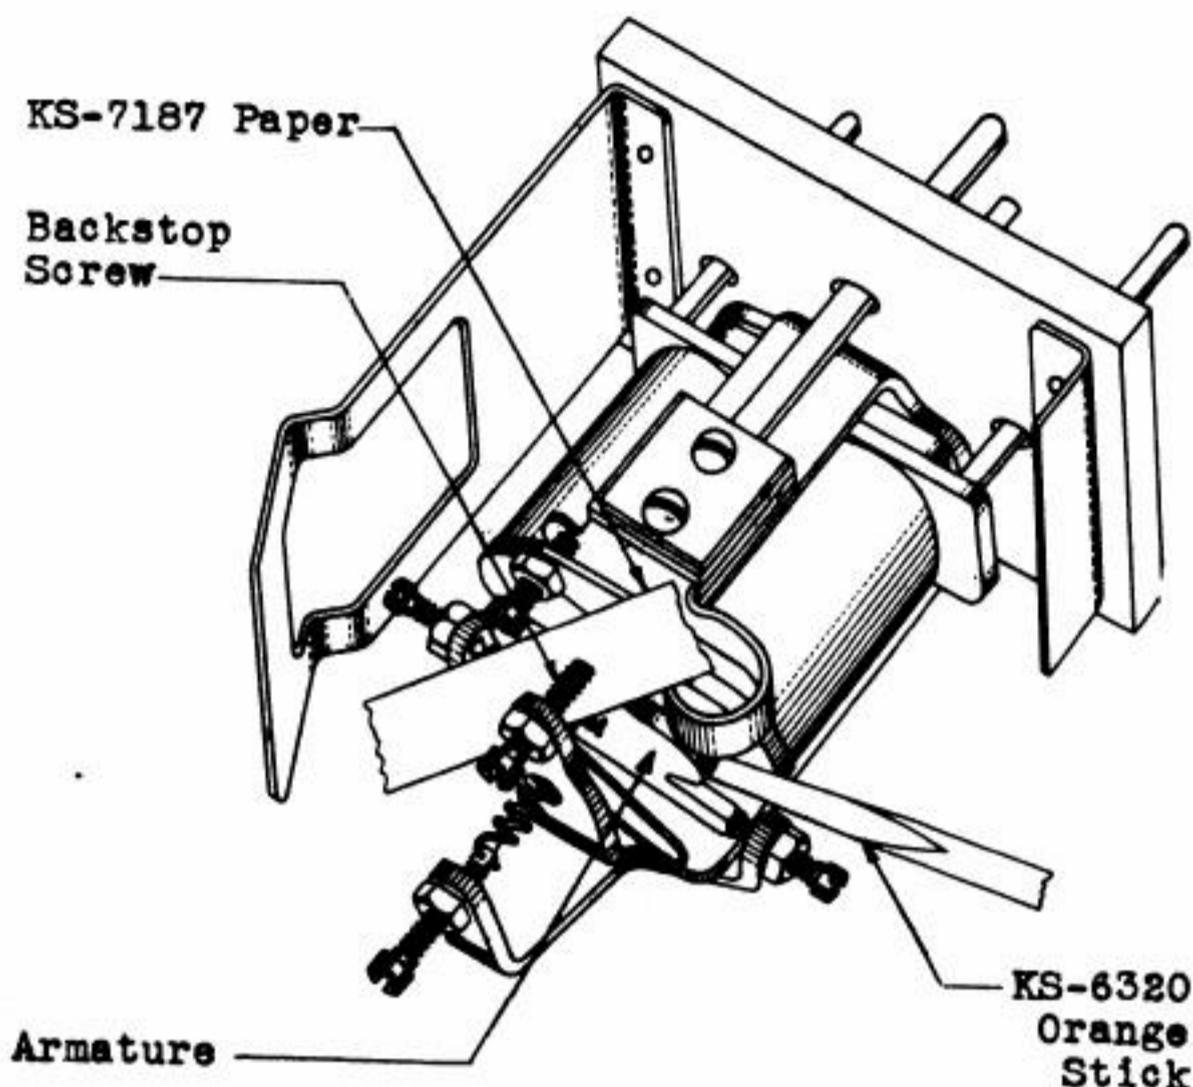

Fig. 31 - Method of Cleaning Backstops
6.11 To clean the backstop insert a piece of KS-7187 paper between the armature and backstop screw and while holding the armature against the backstop screw withdraw the paper. See Fig. 31. Repeat this operation until the paper shows no evidence of dirt when it is withdrawn.